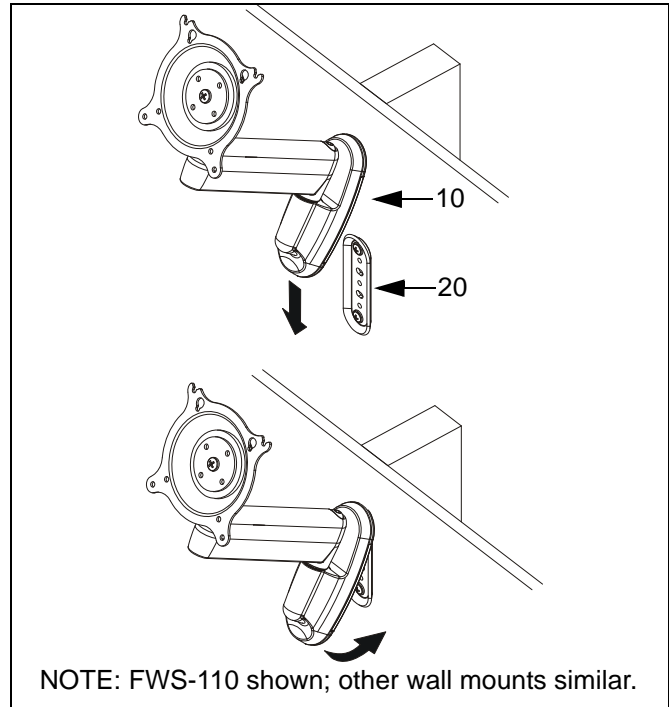

Figure 2: Install Wall Mount
5. Insert top of mount (10) over lip on top of bracket (20) (See Figure 2). Swing mount (10) down flush against wall.